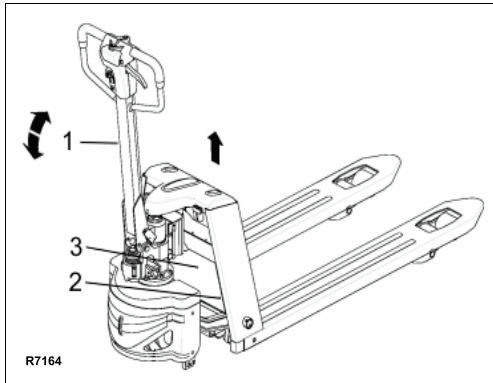

Figure 3-2 Battery Replacement
2. Lift the forks to the highest position by moving control handle (1, Figure 3-2) up and down and rotate handle (1) a few degrees to the left or right.
3. Remove two screws (2) and remove cover (3).